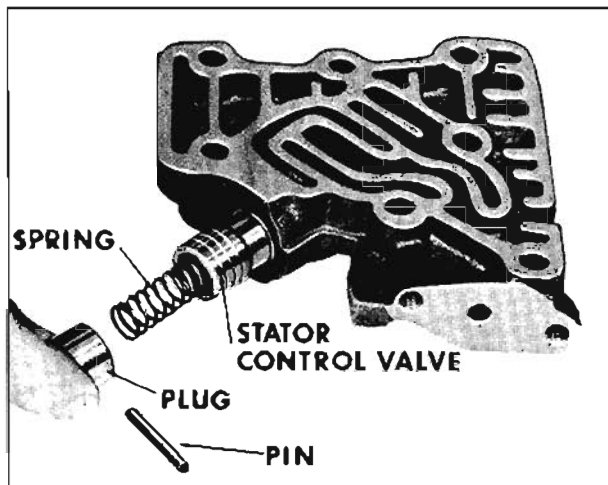

Fig. 6-315 Removing and Installing Stator Control Valve
valve body over and retaining pin will fall free. Remove plug, spring and valve from body. (Fig. 6-315)
2. Install stator control valve, spring and plug into bore of valve body. Compress plug and install retaining pin. (Fig. 6-315)